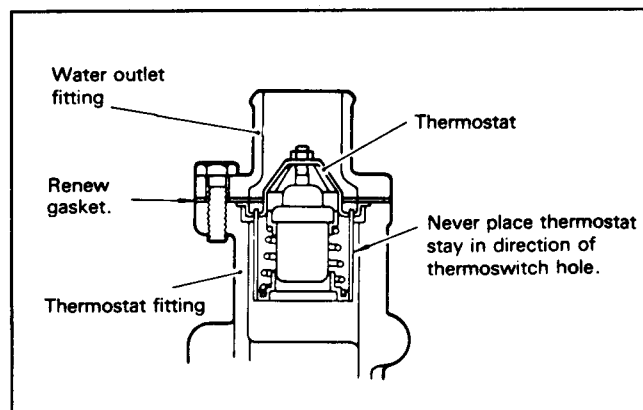

Figure 48
3. Remove the water outlet fitting and gasket (Fig. 48).